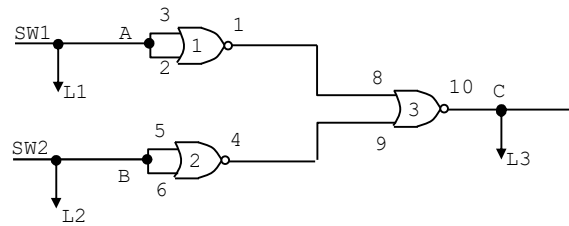
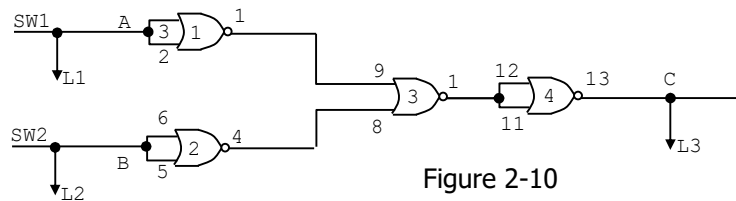

Figure 2-9
Figure 2-10
34. Connect the circuit shown in Figure 2-9. Monitor the inputs and output on LED indicators L1, L2, and L3. With SW1 (A) and SW2 (B), apply the input shown on Table 13. Record the output state corresponding to each set of inputs. Use positive logic.
35. Study Figure 2-9 and Table 13. What logic function is being performed? \_\_\_\_\_
36. Modify your circuit in Figure 2-9 by adding the fourth gate in the 7402 to the output as shown in Figure 2-10. Only the output change is shown. The rest of the circuit stays as in Figure 2-9.